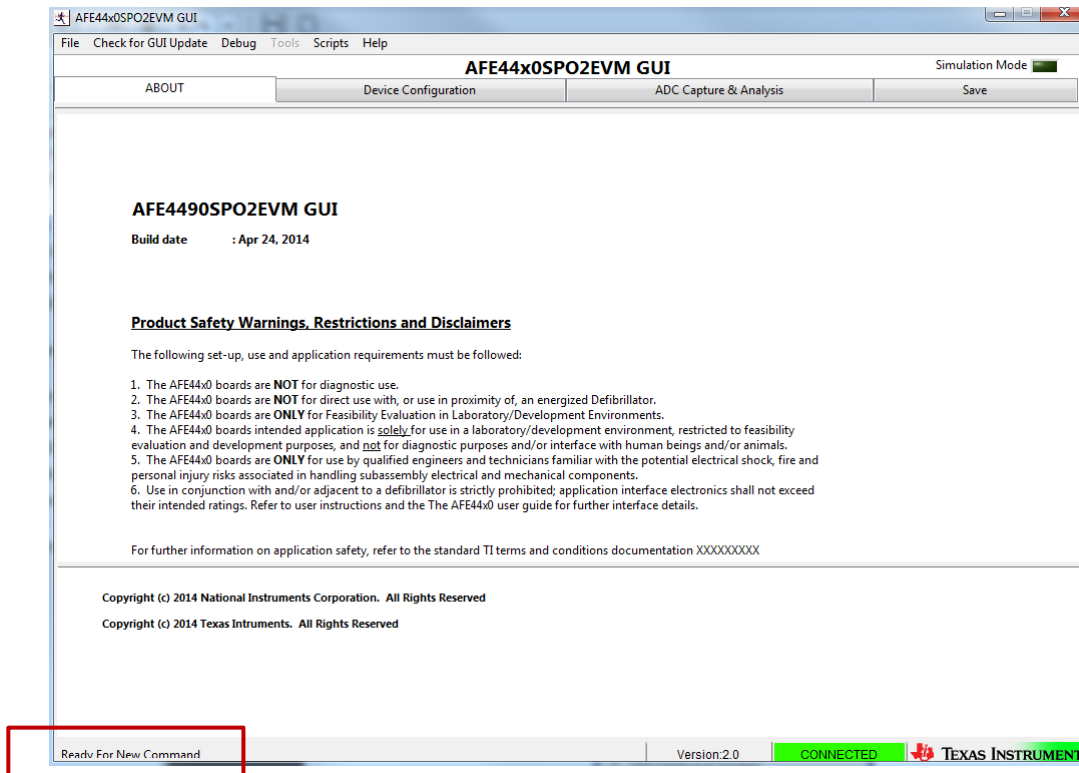

Figure 21. Product Safety Warnings, Restrictions, and Disclaimers
Operations in the GUI should only be performed after the status bar (located at the bottom of the GUI) displays **Ready For New Command** (refer to Figure 21).
- *About* – Product Safety Warnings, Restrictions, and Disclaimers (see Figure 21).